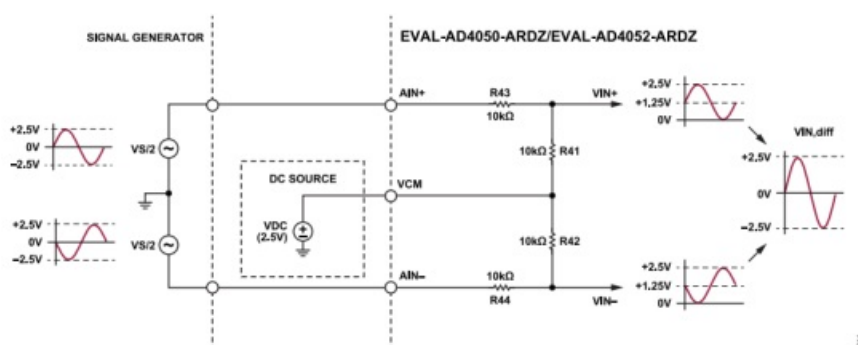

Figure 14. Bipolar Differential Signal Generator Example
- For signal generators with bipolar, differential output swings (signals that go below GND), the VCM input provides a means to apply the necessary DC offset to satisfy the input range specification of the MAX44260 amplifiers. Figure 14 gives an example with a 2.5 V VREF and amplifiers in unity-gain configuration. The signal source (VS) is 5 V peak or 10 V p-p and VCM is 2.5 V DC.